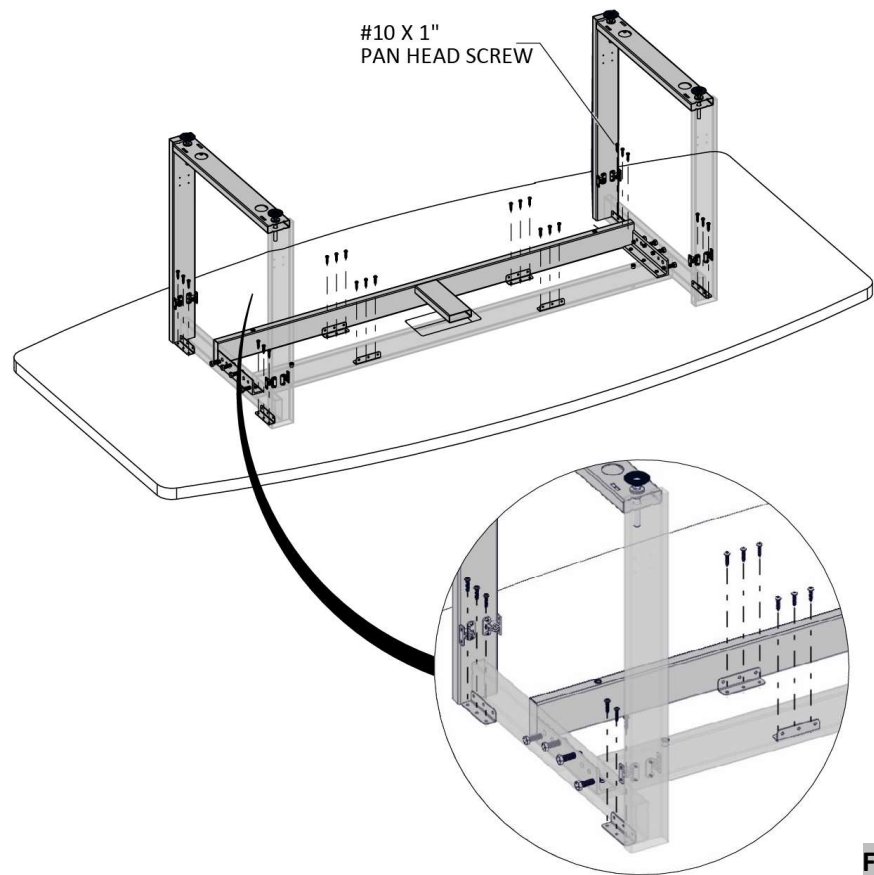

Figure 4
- 4. Securely fasten the base, using #10 X 1" Pan Head Screws, (Figure 4).